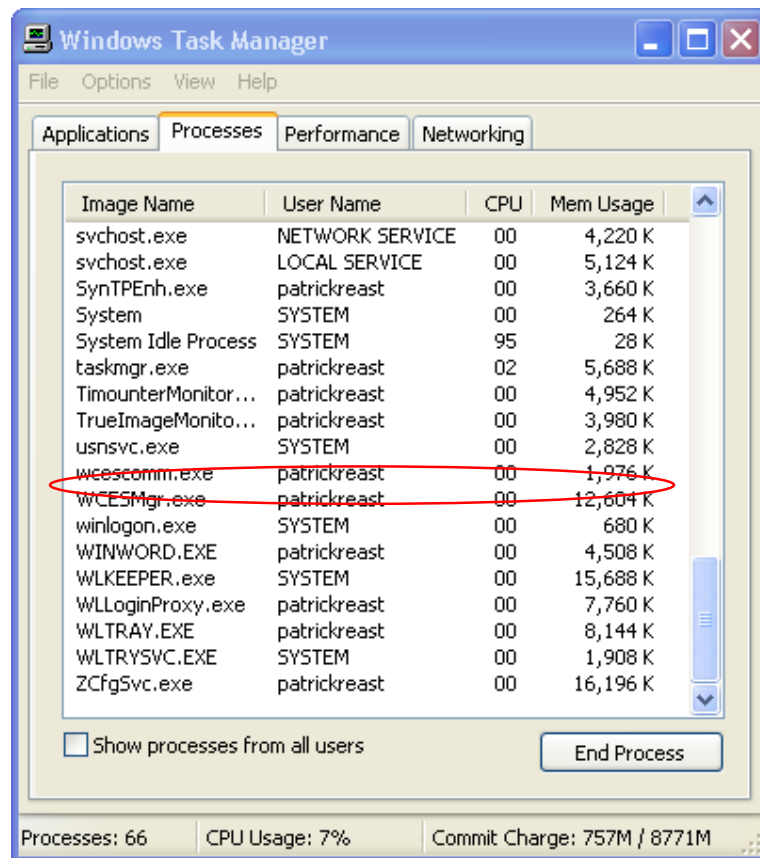

Figure 1.15: ActiveSync process in Host Task Manager
2. As shown in Figure 1.15, verify the ActiveSync process (wcescomm.exe) is running on the host PC under 'Task Manager'.